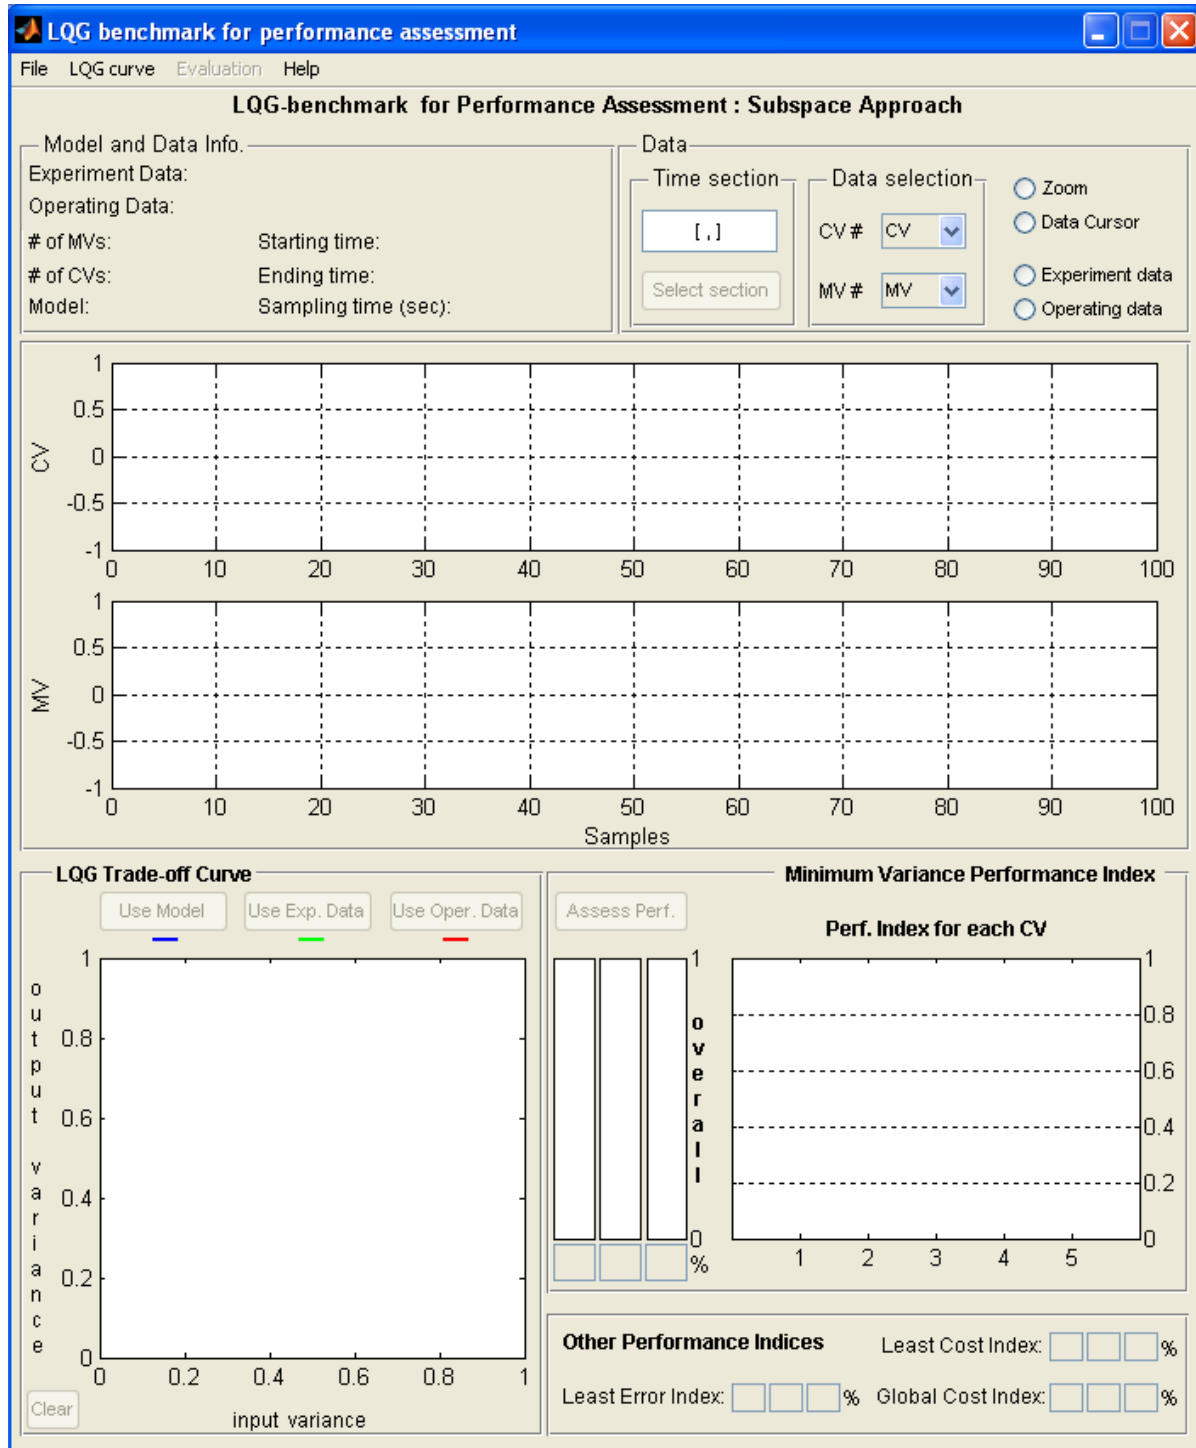

Figure 2: The main GUI for this toolbox
- 4) Press the **LQGA menu**. The new GUI that is shown in Figure 2 will appear.